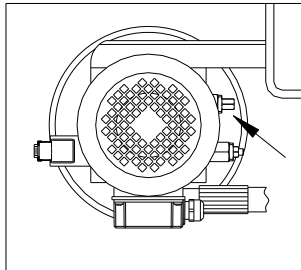

Fig.15
During lift and descent movements, the operator must remain in the command station as defined in figure 15. The presence of persons inside the danger zone indicated in the same figure is strictly prohibited. The presence of persons beneath the vehicle during operations is permitted only when the vehicle is parked in the elevated position.
2. The maximum pressure valve (fig.15), located on the hydraulic oil power unit, will trip if the lift is overloaded.